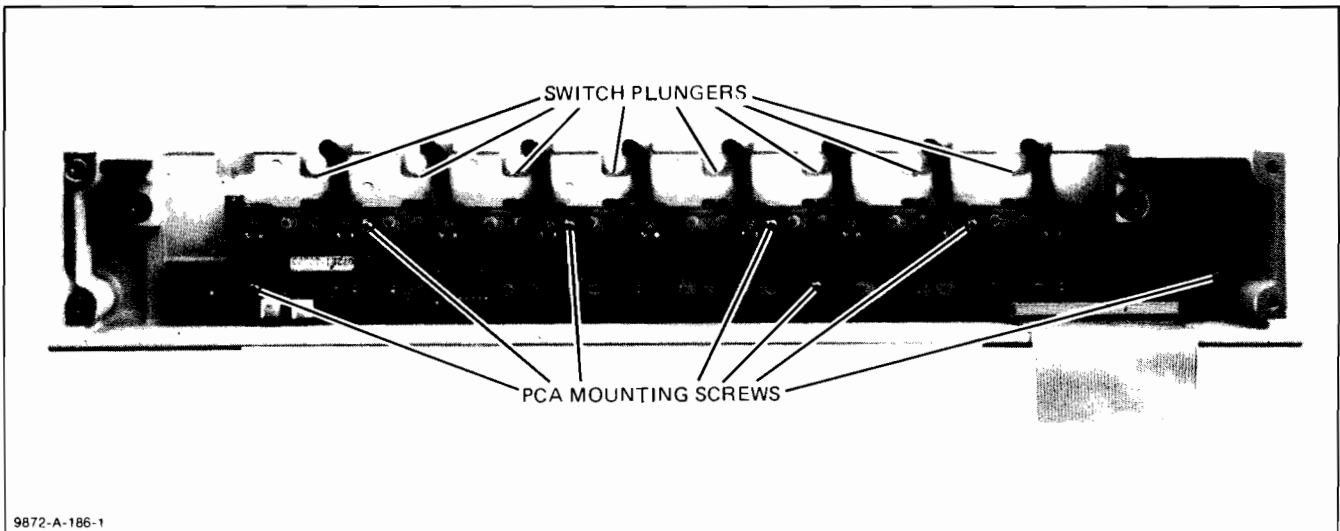

Figure 3-13. Front Panel PCA Adjustment
- a. Loosen the Front Panel PCA mounting screws. See Figure 3-13.